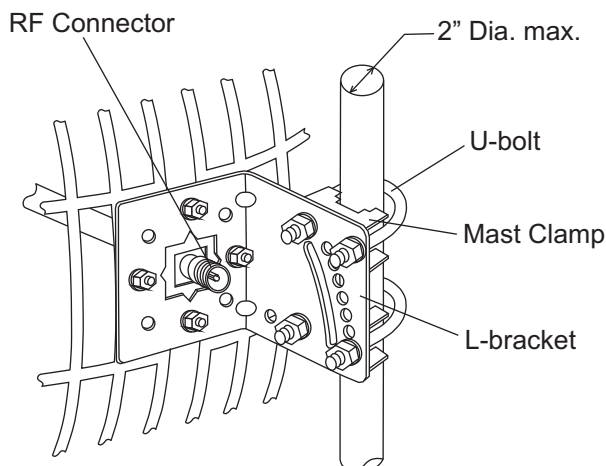

Figure 3
3. Fasten the antenna onto the mast with the 2 U-bolts, mast clamps, flat & lock washers and nuts (Fig. 3).